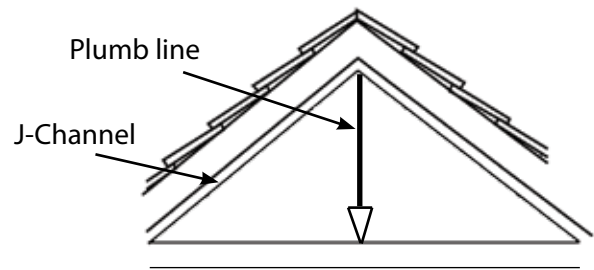

FIGURE 14
- Mark a vertical plumb line from the peak (**FIG 14**).